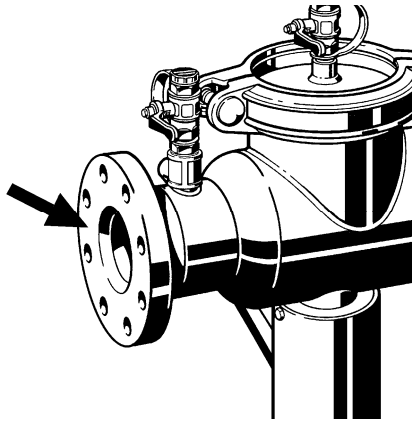

Figure 2:
2. Check connections on backflow preventer for cleanliness (Figure 2)